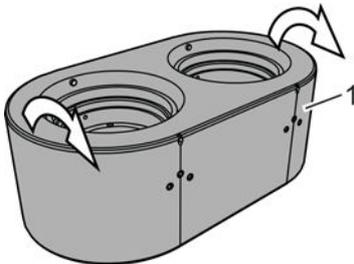

Fig. 113: Turning the bearing housing
- 13. ▶ Turn the bearing housing (Fig. 113/1) by 180° along the longitudinal axis.